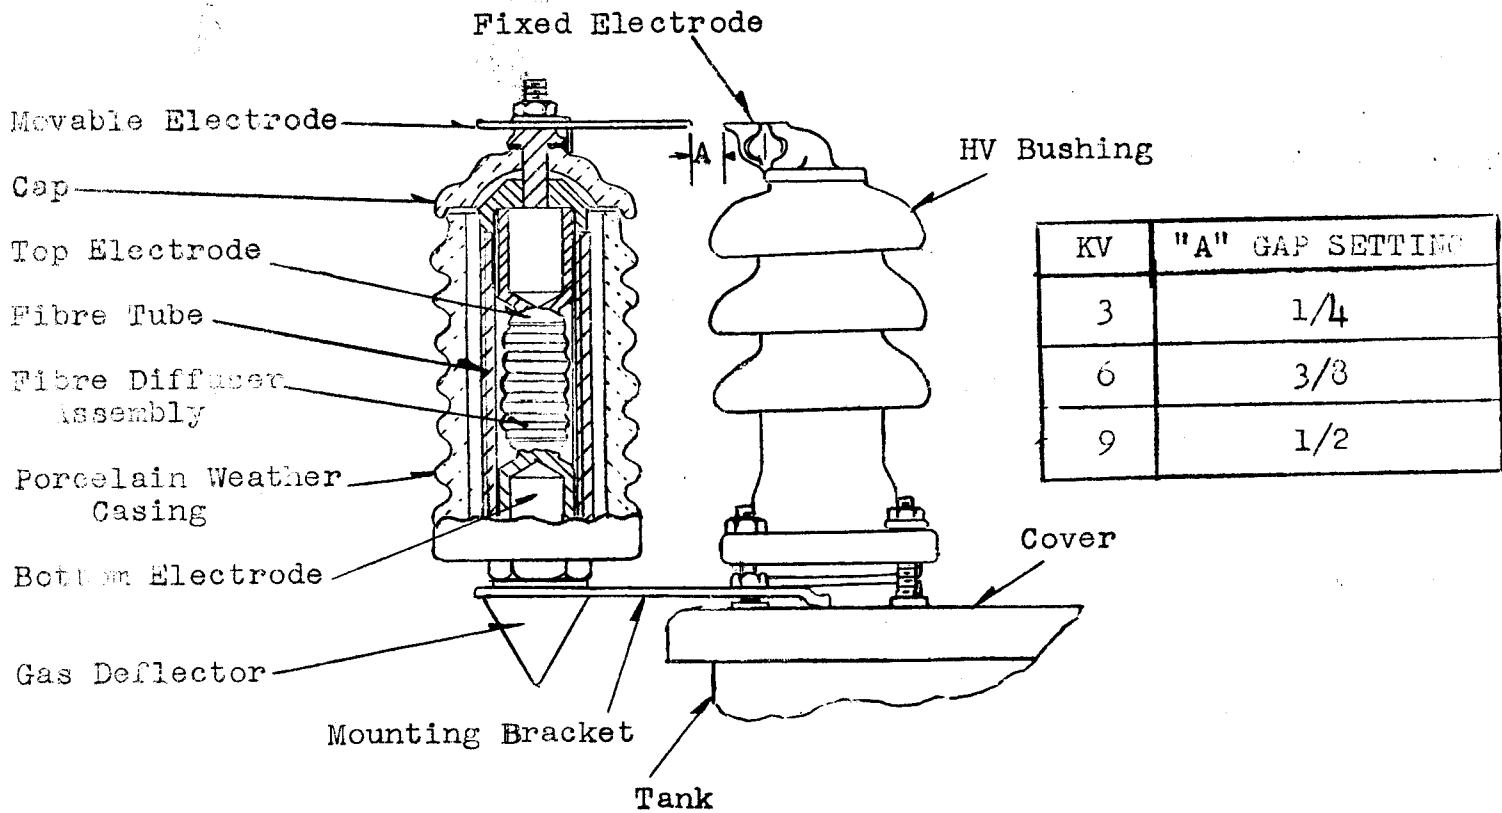

Figure 9
2. For proper operation of the "De-ion" arresters, the air gaps should have spacings as shown on Figure 9. These settings have been made at the factory and require no adjustment unless they have been tampered with or damaged during shipment.